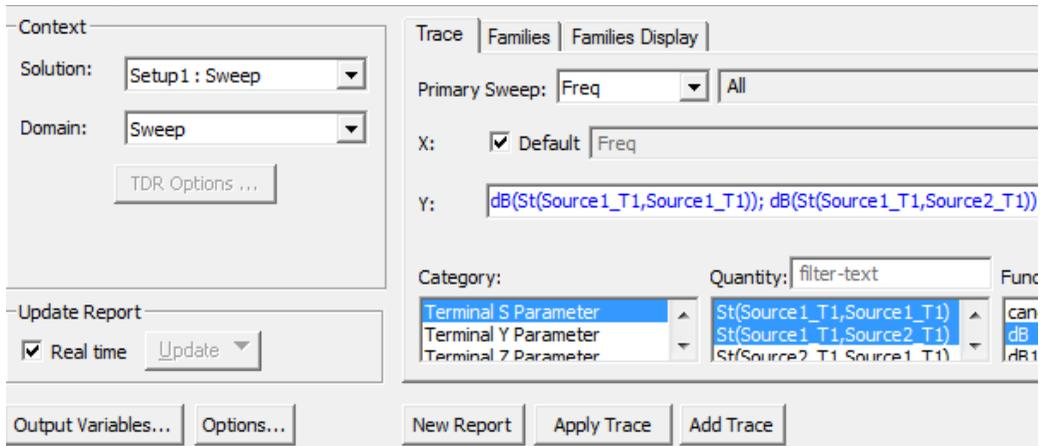

Figure 10. Report dialog box
- 2 Edit the fields as shown in Figure 10.